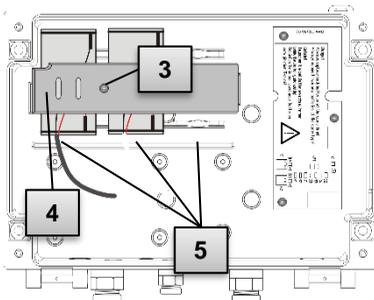

Fig. 25
8. Place the new battery onto the base of a location provided for it (Fig. 25 Pos. 5).